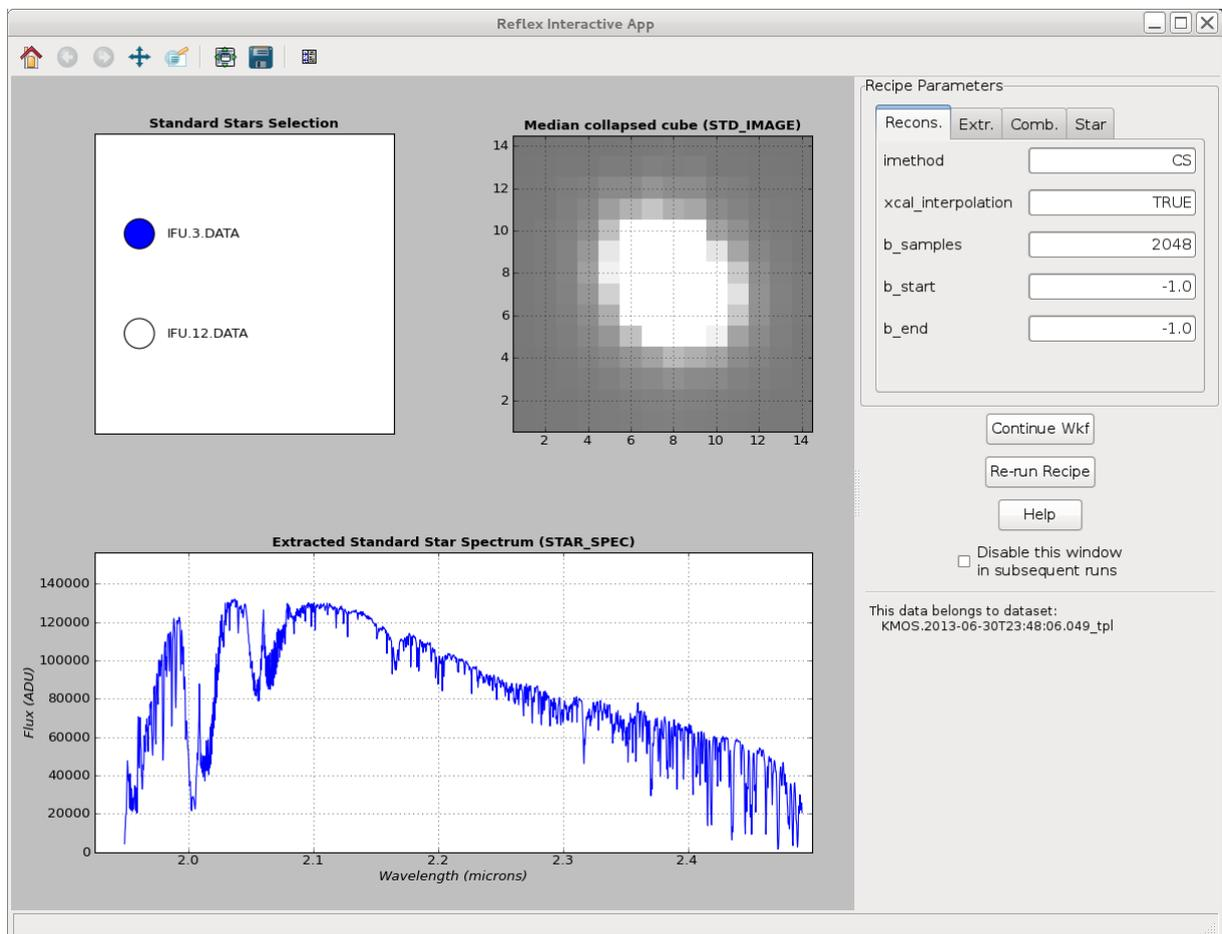

Figure 10.2: The interactive window for the Telluric Standard Star Calibration actor as displayed for the KMOS tutorial data set..
4. **Telluric Standard Star Calibration:** Figure 10.2 shows the interactive window that will pop-up at the end of the execution of the *kmo\_std\_star* pipeline routine. The image panel at the top-right of the window shows the median collapsed data cube (pipeline product: *STD\_IMAGE*) For a single IFU. The total number of IFU's dedicated to observing a telluric standard star are listed to the left of this image and clicking on the circle will display the standard star from another IFU. For the tutorial data set only IFU #3 and IFU #12 observed standard stars.